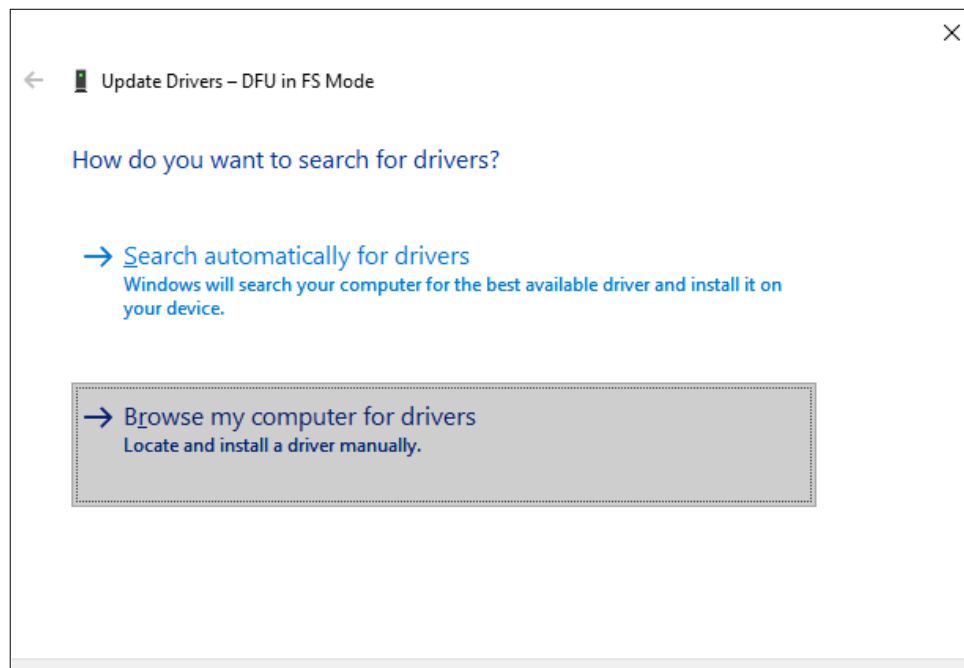

Figure 18: Use the option "Browse my computer for drivers" to pick the driver manually.
- 3 Use the option *Browse my computer for drivers* to pick the driver manually (see Fig. 18).